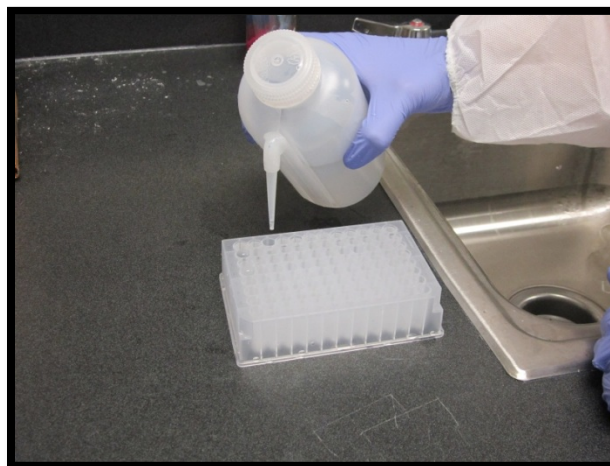

Figure 9-13. Fill 96-Well Deep Well Plate with Hot Water (150°F to 200 °F)
- For a 12-Capillary Array - fill each well in Row H of a 96-Well Deep Well Plate with 1 ml of Hot Water (150°F to 200 °F) for soaking the tips of the capillary array. (Fig. 9-13)